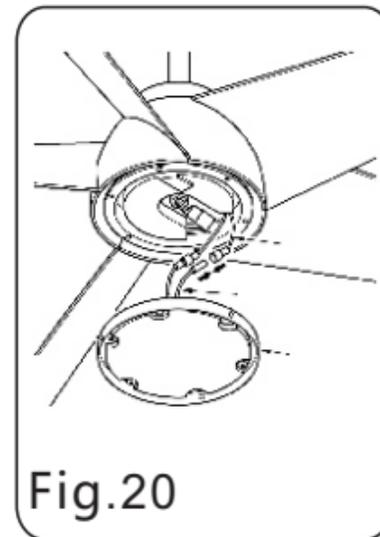

Fig.20
Step 2. While holding the LED light kit under the fan motor assembly, make the 2-pin wire connections: (Fig.20)